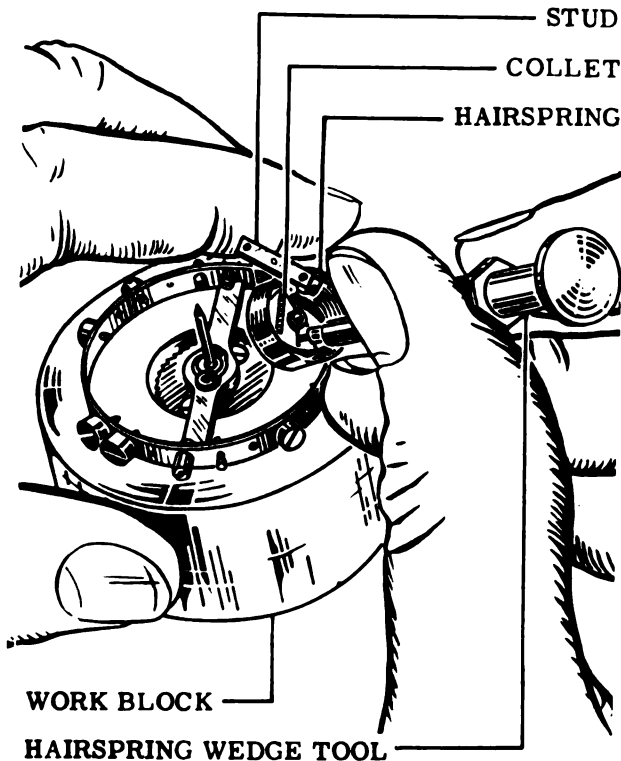

Figure 39
- Place the wedge of the hairspring wedge tool (Tool No. 64), into the collet slot, remove the hairspring unit with stud and collet, and place in work tray. See Fig. 39.